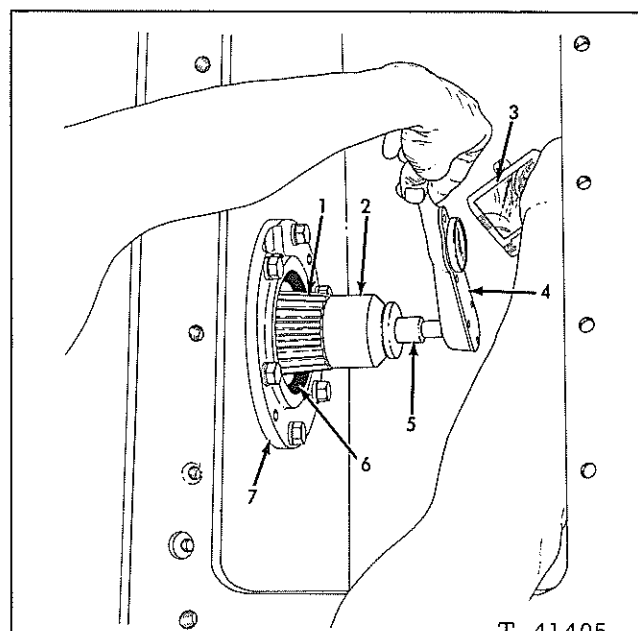

FIG. 14a CHECKING PRE-LOAD OF PINION (TOP SHAFT) BEARING
6. Refer to Fig. 14a; measure pinion (top shaft) bearing pre-load from inner end of pinion shaft by installing hub retaining capscrew securely into end of shaft and assemble tools as shown. Add or remove shims under outer bearing cage as necessary to obtain a torque reading 8 -- 16 lbs. in. higher (additional) than was measured for intermediate pinion bearing pre-load.